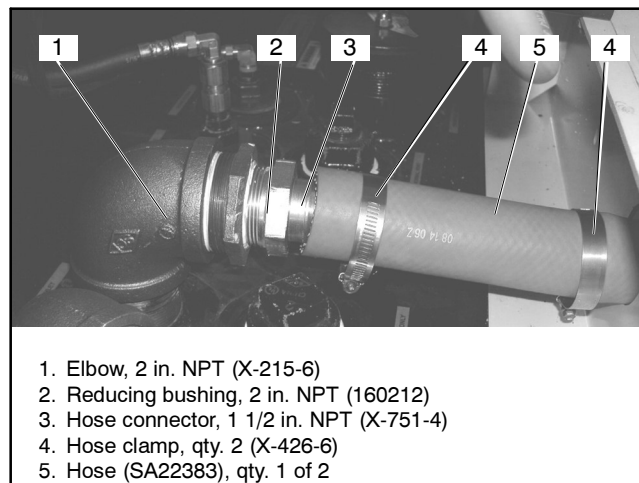

Figure 13 Subassembly for Hose Connections on Opening L
2.1.14 Slide hose SA22383 over 1 1/2 in. NPT hose connector X-751-4. Tighten hose clamps X-426-6 securely to 1 1/2 in. NPT hose connector and overspill tank tube GM46940. See Figure 13.